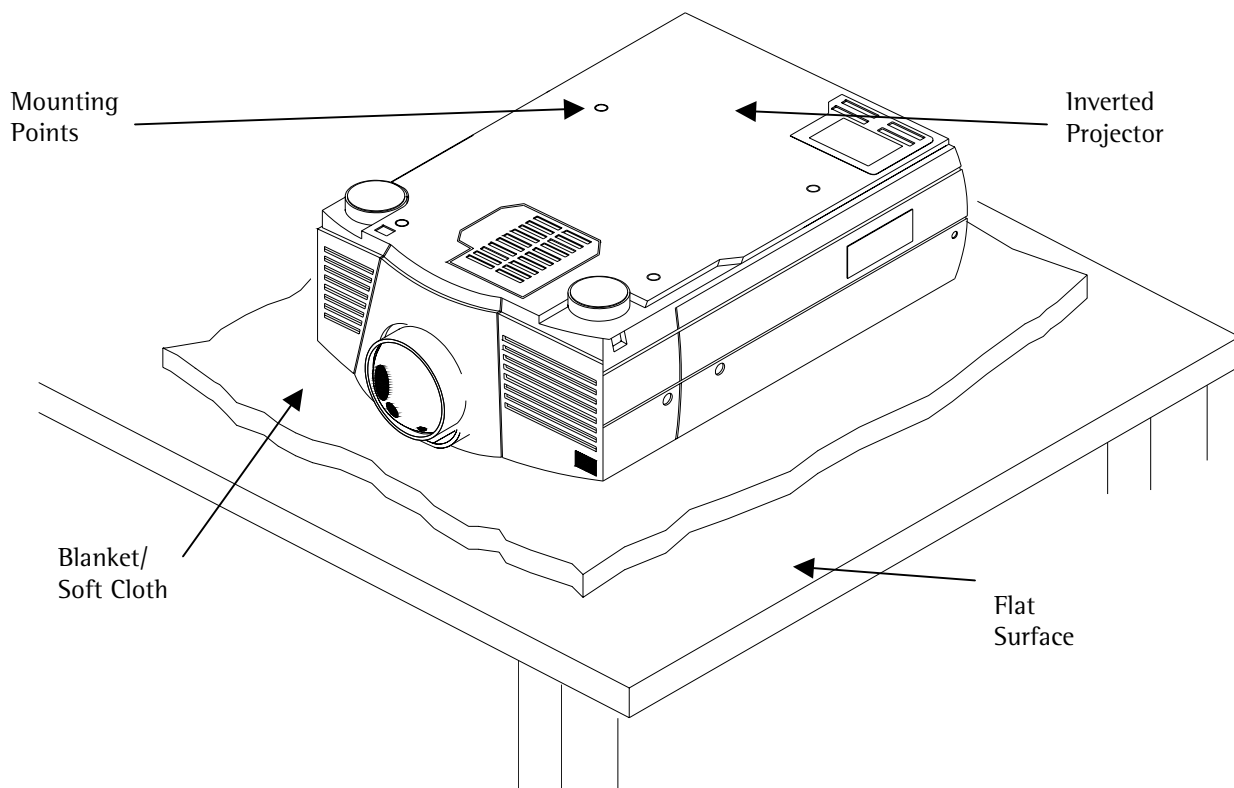

Figure 1. Projector Preparation
2. Identify the number of mounting points and screw thread size. Most projectors have either three or four mounting points and are M4, M5 or M6 in thread size (Figure 1).